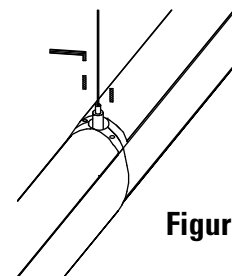

Figure 4
- B. After each addition to your run tighten down the set screws to hold the fixtures in place. (Fig. 4)